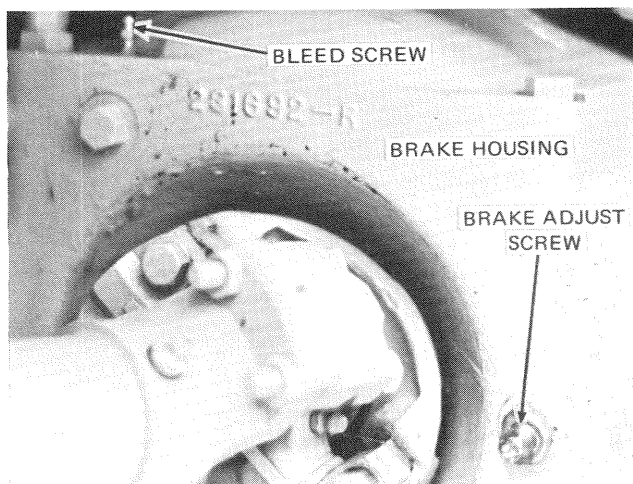

Fig. 9-2 Bleed and Adjust the Brake
2. With the aid of a helper, open the bleed screw on the brake housing in Fig. 9-2 and depress the brake pedal to expel any air and fluid from the lines.
To insure correct and adequate braking pressure the brake should be adjusted periodically or whenever necessary. To adjust the brake loosen the locknut on the adjust screw, Fig. 9-2, tighten the adjust screw clockwise until it is secure. Then loosen the adjust screw counter clockwise one complete turn and secure with the locknut.